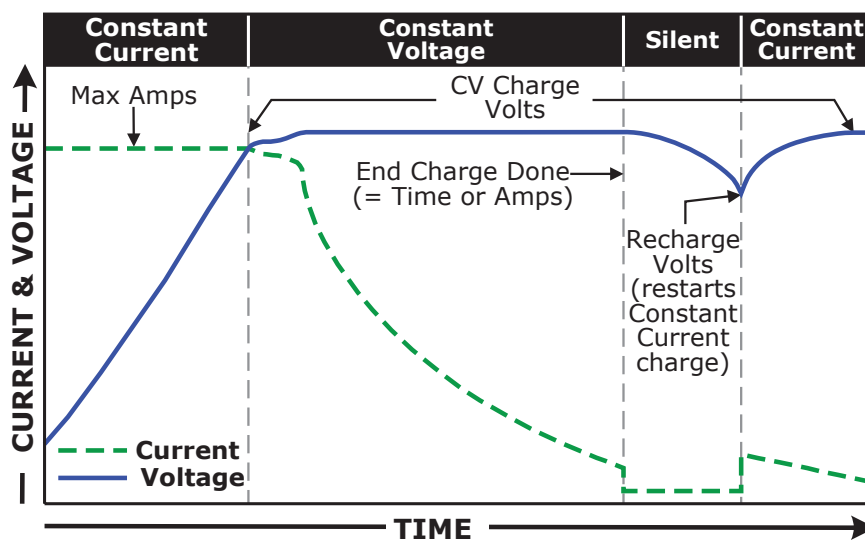

Figure 3-10, Done Time/Amps Charge Stages
■ **EndChg** – These selections determine when the second stage of charging (Constant Voltage) is finished. If using the *DoneTime* or *DoneAmps* selections, once the constant voltage charge cycle is finished, it transitions to a Silent charge stage. After entering the Silent Charge mode, the charger automatically stops charging, but is still actively monitoring the battery voltage. The charger will remain “Silent” until the battery voltage drops to the *Recharge* setting, at which time the charger will start another Constant Current/Constant Voltage charge cycle (see Figure 3-10).